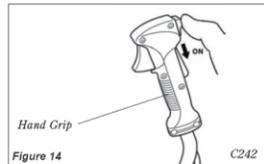

Figure 14
1. Slide the ignition switch to the "ON" position. See Figure 14.